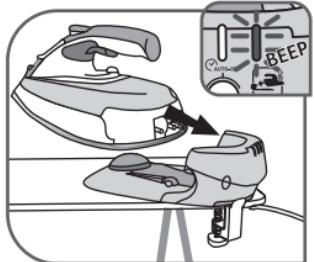

Fig.14
- The flashing red light and beep sounds after around 30s when the iron is not on its base: the iron must be replaced on the base for recharging – fig.14.